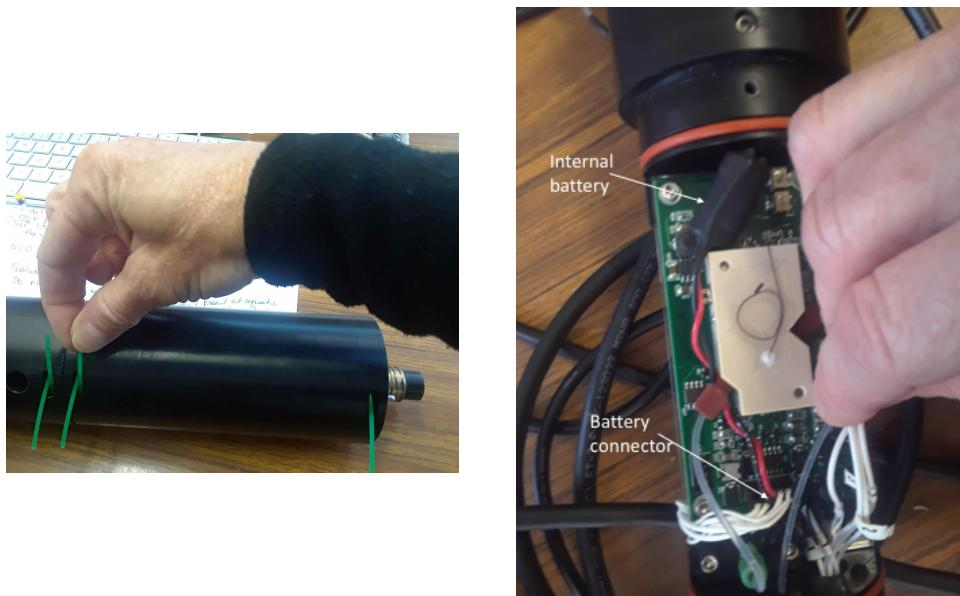

Figure 19: iSAMI electronics housing cover, secured by green filaments (left); iSAMI controller board (right).
1. Remove the iSAMI electronics housing cover by pulling out two green filaments, and then gently pulling the cover off the top of the iSAMI (this will take a bit of force to pull the cover past the o-rings) as shown in Figure 19.
2. Pull the battery connector from the board (this will be a 10-pin or a 2-pin connector). Wait 10 seconds. Re-attach the connector. See Figure 19.